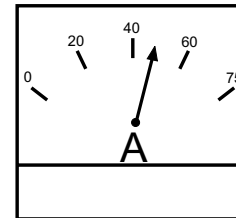

Figure 29. Ammeter (Load)
13. Observe at the generator's ammeter (Figure 29) and verify that it reads the anticipated amount of current with respect to the load. The ammeter will only display a current reading if the load is in use.